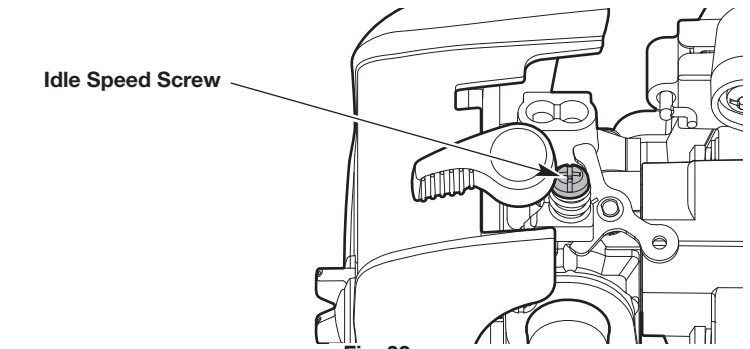

Fig. 22
- If the engine stops, increase the idle speed. Use a small Phillips screwdriver to turn the idle speed screw clockwise, 1/8 of a turn at a time, until the engine idles smoothly (Fig. 22).
- If the cutting head spins when the engine idles, reduce the idle speed. Turn the idle speed screw counterclockwise, 1/8 of a turn at a time, until the cutting head stops moving (Fig. 22).